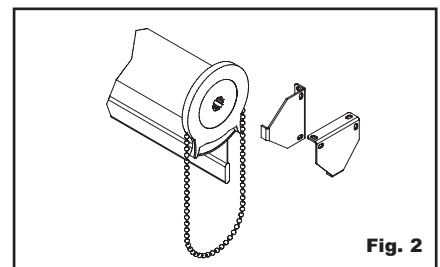

Fig. 2
3. Take assembled tube and insert the clutch end into the clutch bracket. The bracket will fit into the slot provided on the clutch. **(See Fig. 2)**
- Take assembled tube and insert the clutch end into the clutch bracket. The bracket will fit into the slot provided on the clutch. **(See Fig. 2)**